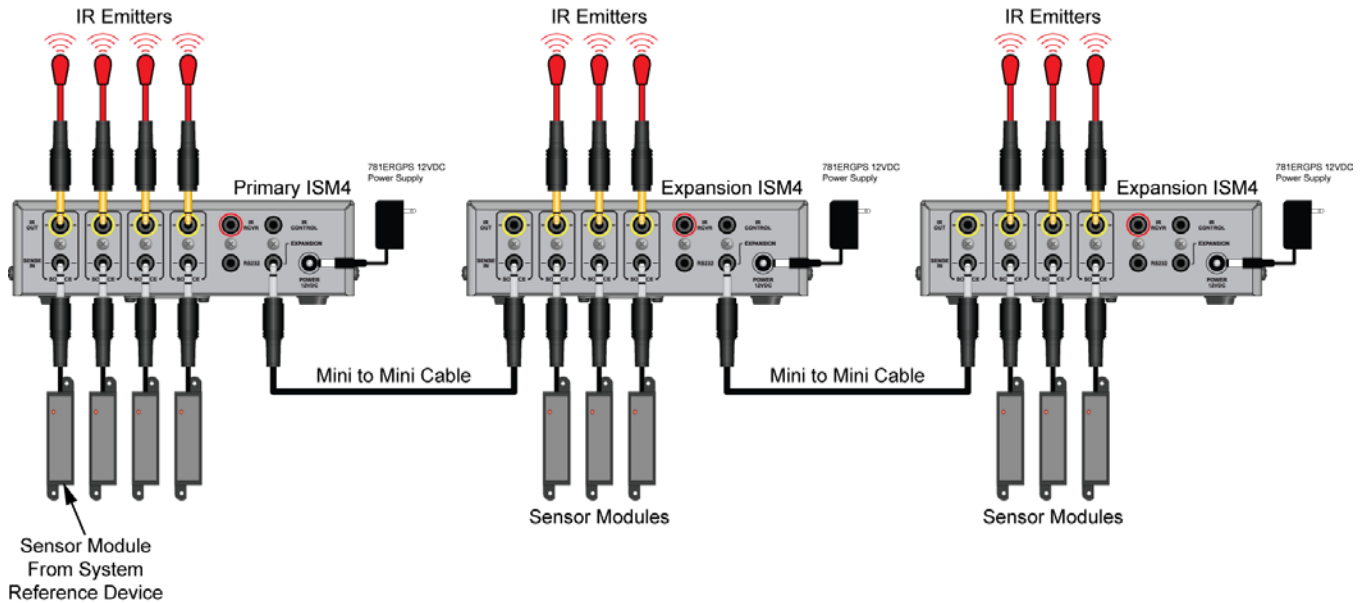

Figure 8 ISM4 Expansion Connections
2. If using **additional ISM4s**, repeat **Step 1** for each additional ISM4 as shown in **Figure 8**.
NOTE 2: If using the Expanded application with a **multi-zone controller**, there would be **no** required **IR Emitter** connection to the **Primary ISM4 Source 1 "IR Out"** as shown in **Figure 8**.